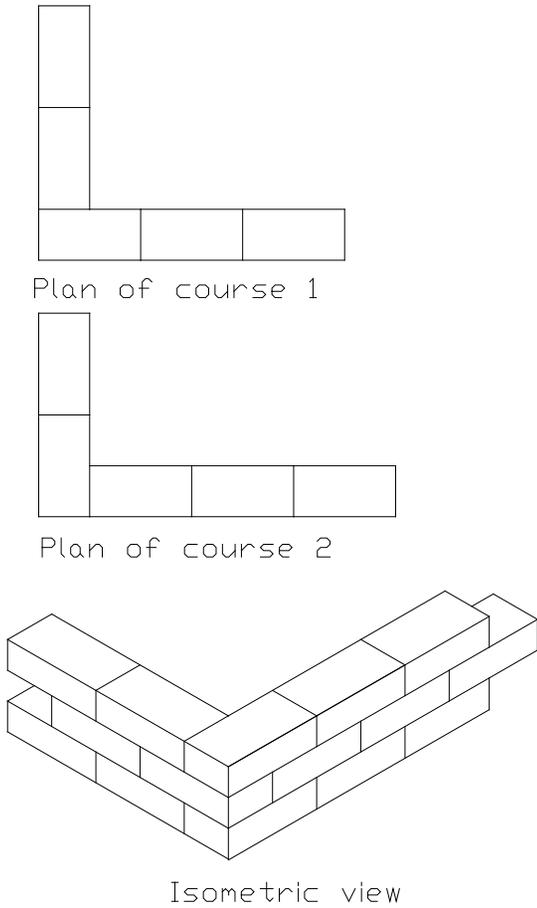

Fig 2.2a Stretcher bond corner
- Using a scale of 1:10, draw all the bonds as shown starting from fig 2.2a up to 2.4e